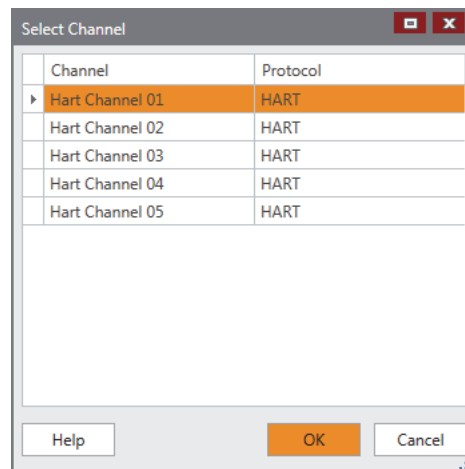

Figure 11-13 Scan Channels for HART Devices
15. You will be prompted for a list of channels to scan as shown in Figure 11-13. These correspond to channels on the SIO module. Select the channels you would like to scan and then click OK.